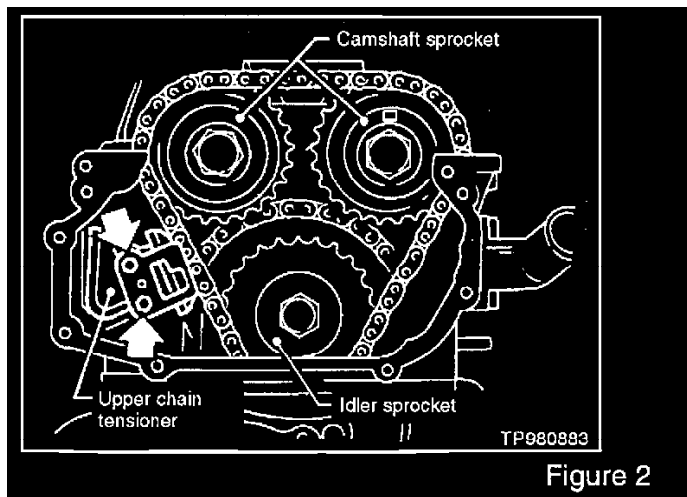

Figure 2
9. Remove the upper chain tensioner (see Figure 2).